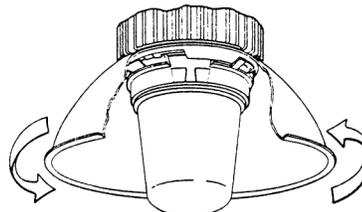

FIGURE 6
5. The reflector can be removed by rotating counterclockwise until the three reflector tabs are free of the captivating bosses. See Figure 6.